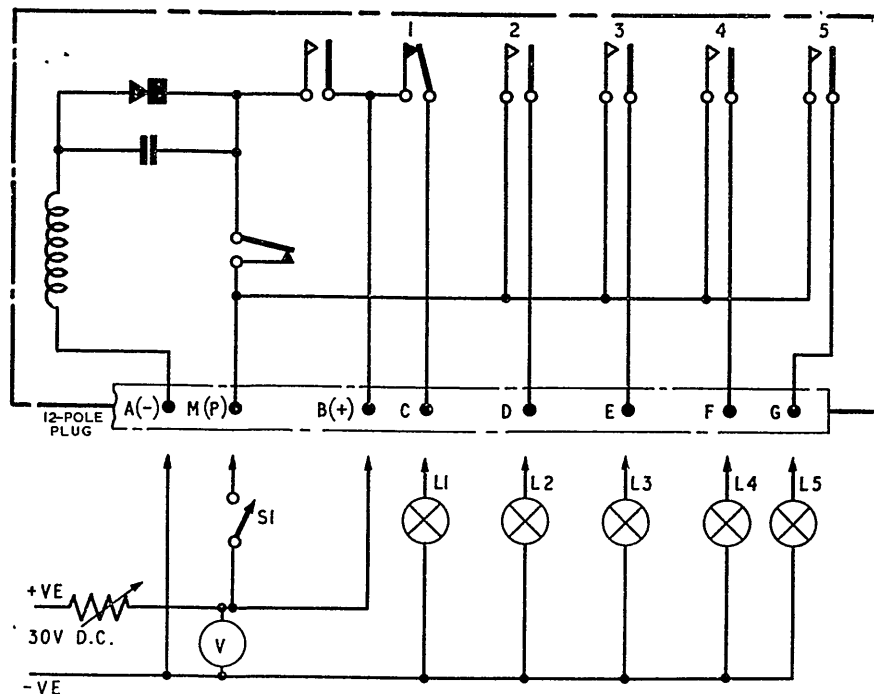

Fig. 1. Switch, Type D8161, circuit diagram and test circuit
1. This time delay switch has three pairs of circuit contacts, the circuit diagram (fig. 1) shows the switch internal wiring and the associated test circuit. The total motor run and circuit timing is detailed in para. 3.